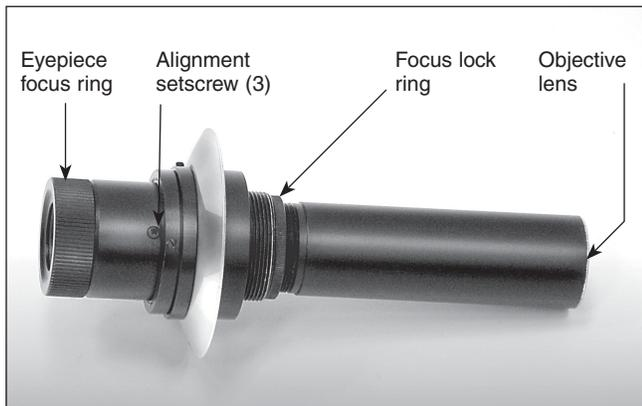
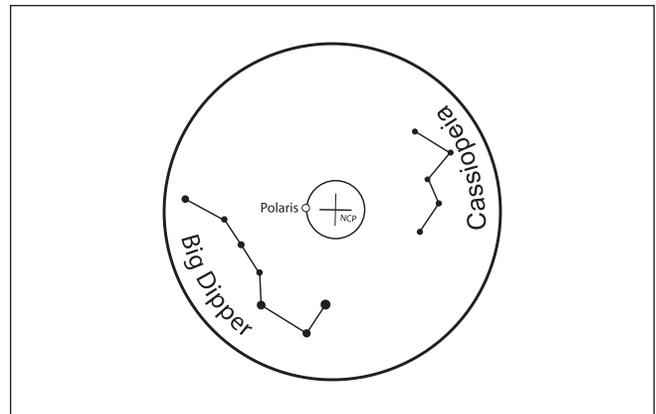

Figure 12. The polar axis finder scope
Figure 13. The reticle of the polar axis scope shows the positions of the Big Dipper and Cassiopeia relative to Polaris and the north celestial pole (NCP).
The Atlas mount comes with a polar axis finder scope (**Figure 12**) housed inside the right ascension axis of the mount. When properly aligned and used, it makes accurate polar alignment quick and easy to do. The polar scope included with the Atlas mount can be used for polar alignment in the Northern Hemisphere. That is, the polar scope's reticle graphic has reference star patterns that are useful for aligning in the Northern Hemisphere (**Figure 13**). Remove the cap that covers the polar scope to view through it, and be sure to remove the cap on the front opening of the mount housing.
4. Look through the polar finder again. Is the object being viewed still centered on the cross hairs? If it is, then no further adjustment is necessary. If not, then look through the polar finder while rotating the mount about the R.A. axis. You will notice that the object you have previously centered moves in a circular path. Use the 1.5mm Allen key to adjust the three alignment set-screws on the polar axis finder (**Figure 12**) move the object HALF the distance back to the cross. Then you will re-center the object on the cross as in Step 2 using the latitude adjustment L-bolt and azimuth adjustment knobs.
The polar axis finder scope is normally focused by simple rotation of the eyepiece focus ring. However, if after adjusting the focus ring you find that the image of the reticle is sharp, but the stars are out of focus, then you must adjust the focus of the polar axis finder's objective lens. To do this, first remove the polar axis finder from the mount by unthreading it. Look through the polar axis finder at a star (at night) or distant object at least 1/4 mile away (during daylight). Use the eyepiece focus ring to bring the reticle into sharp focus. Now, loosen the focus lock ring (**Figure 12**) and thread the entire objective end of the finder inward or outward until images appear sharp. Re-tighten the focus lock ring. Once the polar axis finder's objective lens is focused, it should not need to be adjusted again.